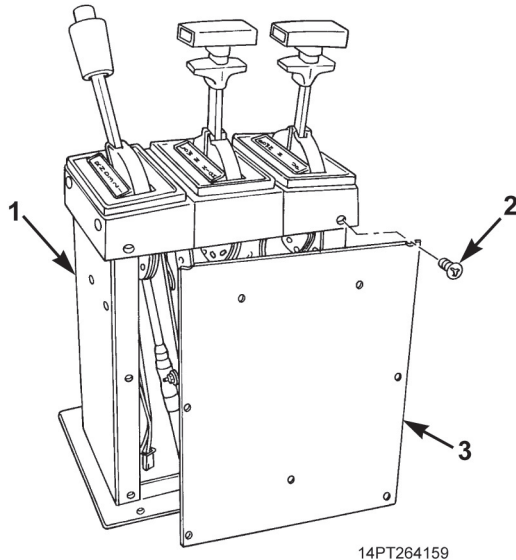

Figure 1. Shift Tower Cover Removal.
1. Remove six screws (Figure 1, Item 2) and rear access panel (Figure 1, Item 3) from shift tower (Figure 1, Item 1).
3. To keep shift tower rigid, reinstall two top and two bottom screws (Figure 1, Item 2) on front and rear of shift tower (Figure 1, Item 1).